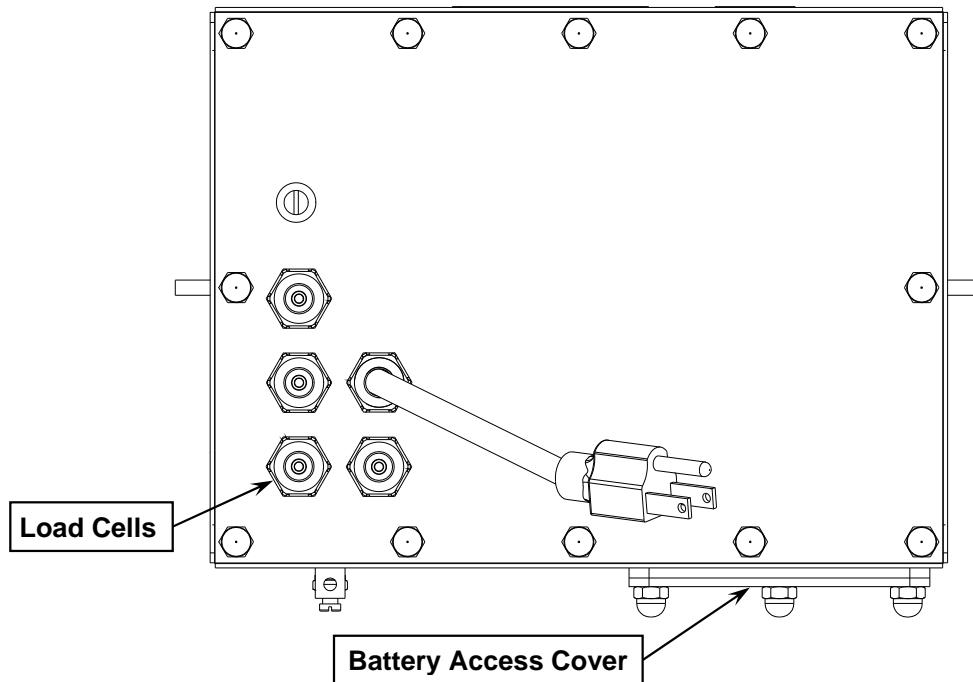
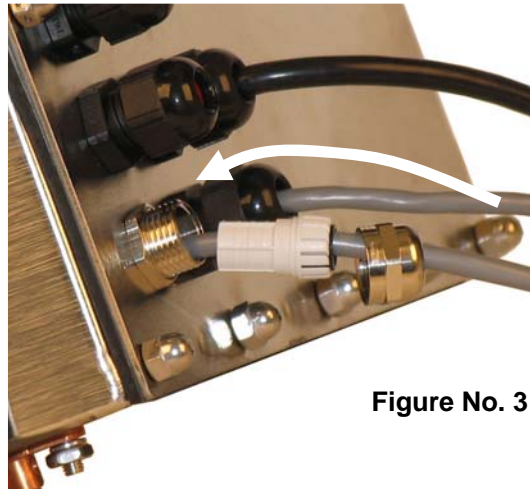

Figure No. 2
Figure No. 3
The load cell cable should be routed through the special metallic gland connector and the shield wire must be connected to this gland connector for grounding and to eliminate RFI. Refer to Figure No. 2 and Figure No. 3 for the appropriate gland connector.
2. After removing the battery tray or battery, remove the 12 acorn nuts securing the back panel to main housing, and then loosen a gland connector for the load cell cable. Refer to Figure No. 2 for illustration of connector layout.
1. Remove the 12 acorn nuts securing the back panel to main housing, then loosen a gland connector for the serial cable. Refer to Figure No. 2 for illustration of connector layout.